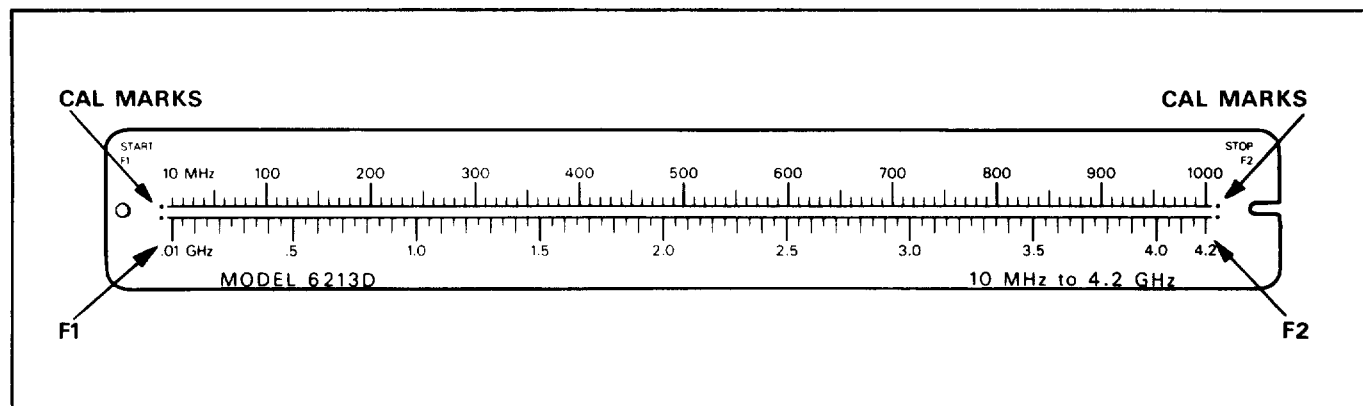

Figure 5-5. 6213D Dial Scale
3. Check that F1 dial pointer is precisely on top of the Cal marks near the Start end of the dial (Figure 5-5).